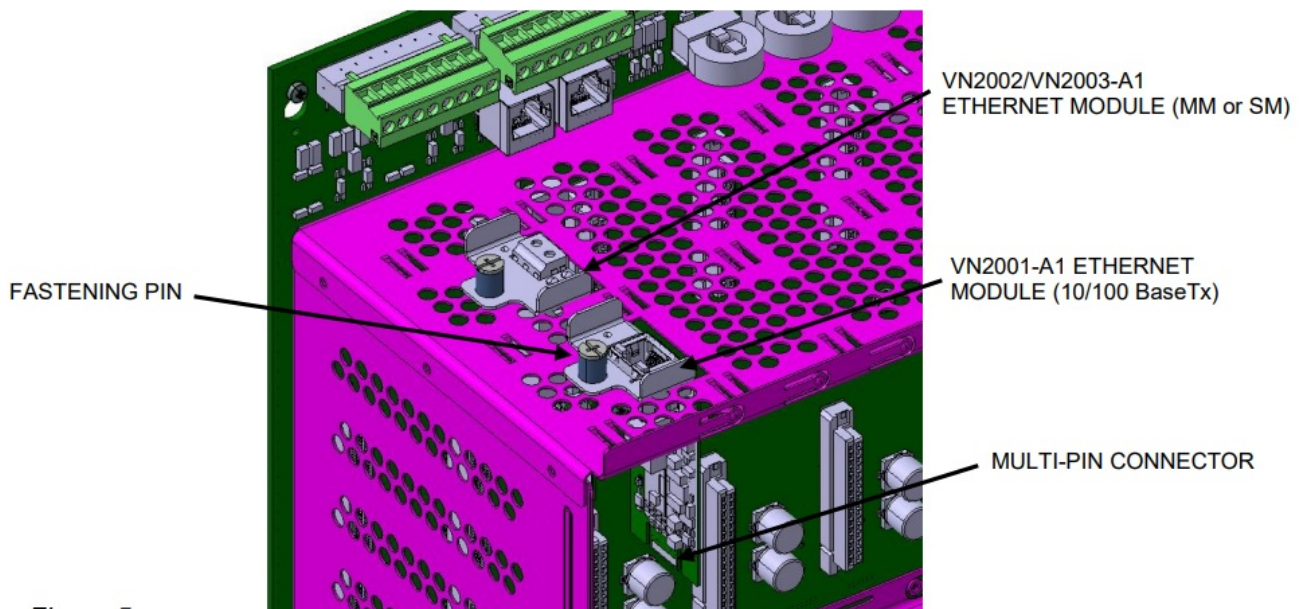

**Figure 4**
4. Referring to Figure 4, if the two knockouts for Ethernet modules are still present in the Card Cage top panel, remove them. To avoid damage to sensitive electronic components, remove any burrs that may be present in the knockout opening.